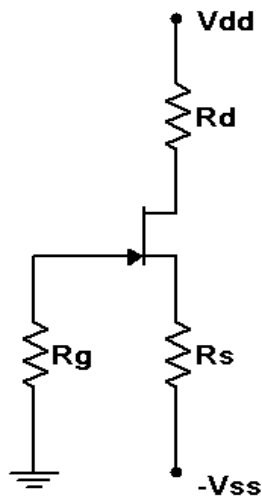

Figure 3
6. Consider the circuit of Figure 3 using $V_{DD} = 15$ volts, $V_{SS} = -3$ volts, $R_d = R_s = 4.7\ \text{k}\Omega$ and $R_g = 330\ \text{k}\Omega$. A reasonable approximation for V_{GS} in this circuit is -2 volts DC. Based on this, calculate and record the expected voltages for JFET 1 in Table 4. Also record the expected drain current in Table 5.
7. Build the circuit of Figure 3 using $V_{DD} = 15$ volts, $V_{SS} = -3$ volts, $R_d = R_s = 4.7\ \text{k}\Omega$ and $R_g = 330\ \text{k}\Omega$. Measure and record the voltages for JFET 1 in Table 4. Based on V_D , compute and record the experimental drain current in Table 4. Also find and record the drain current deviation.
3. In general, identify two ways of decreasing the drain voltage in the circuit of Figure 3.